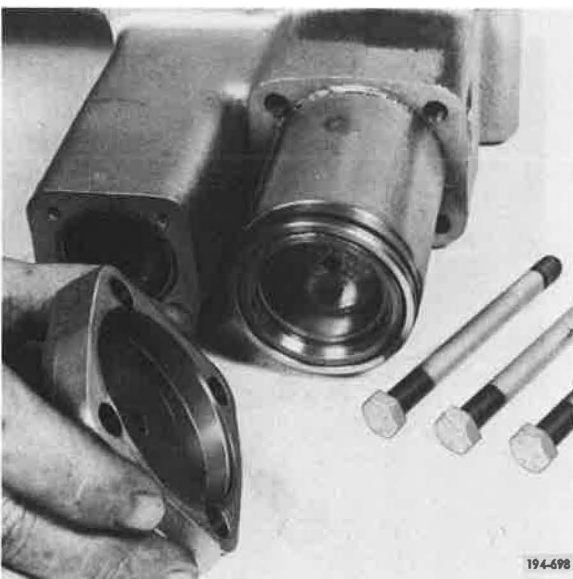

Figure 244. Installing Cover
15. Install Hi/Direct shift cover onto Hi/Direct shift cylinder. See Figure 244.